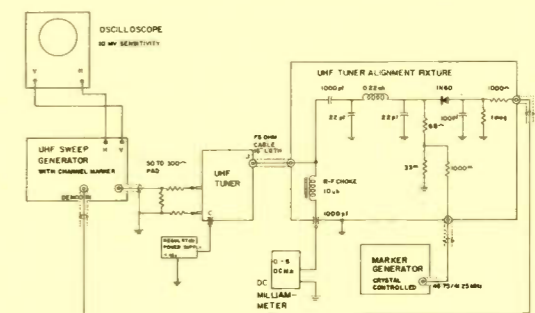

Figure 14. UHF Test Equipment Hookup
**Initial Connections For UHF Alignment (Figure 14)**